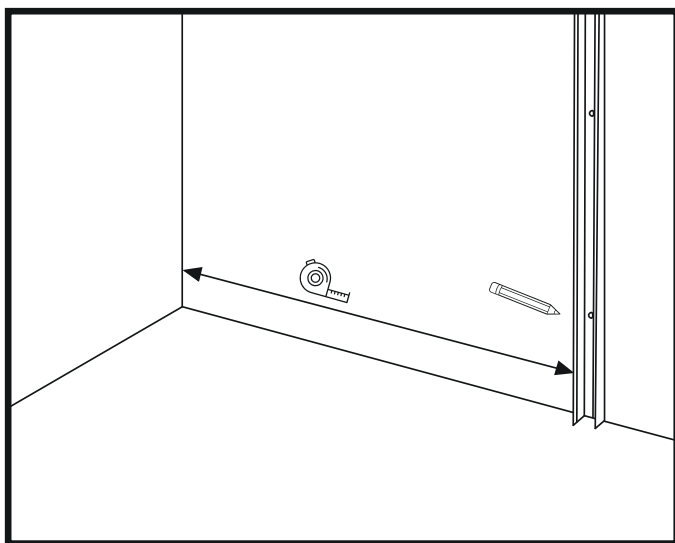

Figure 1
1. Set the distance between the hinge profile and the parallel wall based on your desired placement. Measure the required distance from the corner of the wall and make a mark. (Figure 1)